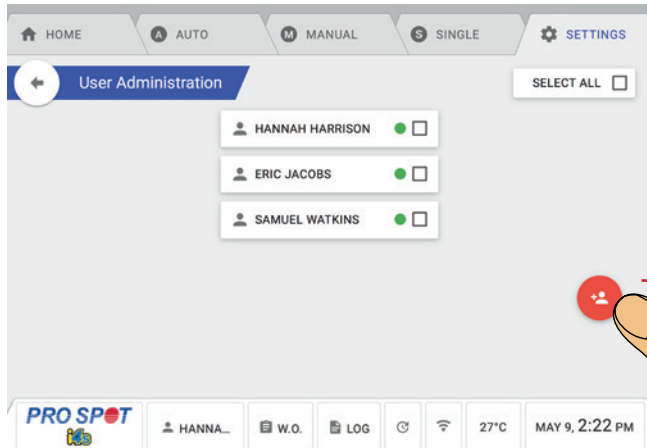

Figure 4.33
1. Navigate to the User Menu and select the red Create User Button in the bottom right (Figure 4.33).